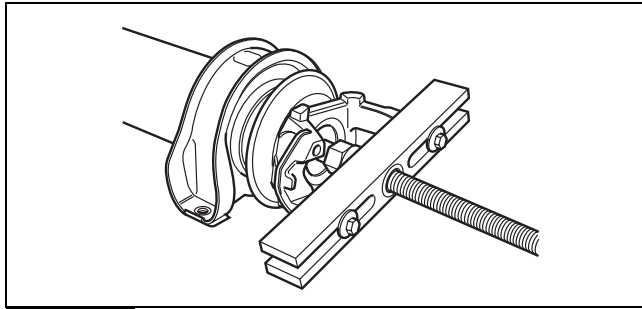

Figure 9.8
5. Place the driveline on a workbench. Use a puller to remove the center bearing end yoke. Do not use a hammer. Follow the puller tool manufacturer's instructions. Figure 9.8.